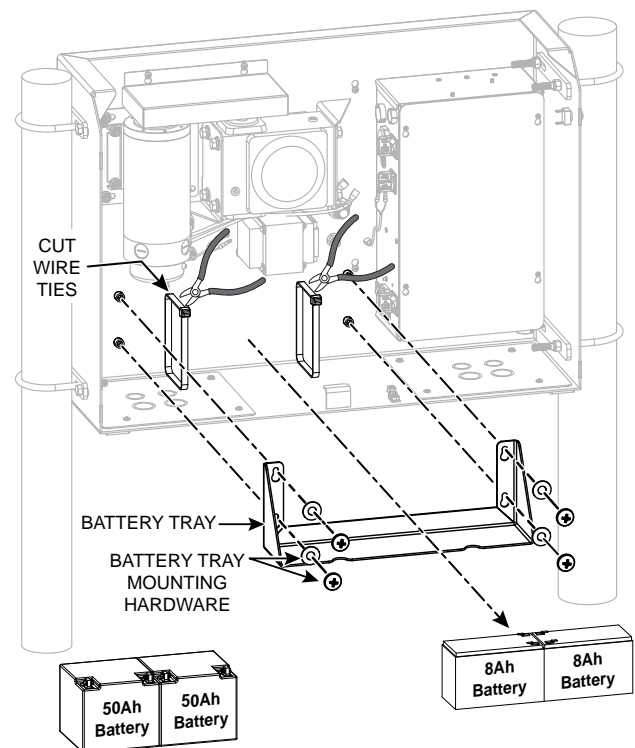

Figure 76. DC Battery Replacement
2. To access the 8Ah batteries and disconnect its wires, cut the two black wire ties and slide the 8Ah batteries through the access window. See Figure 76.